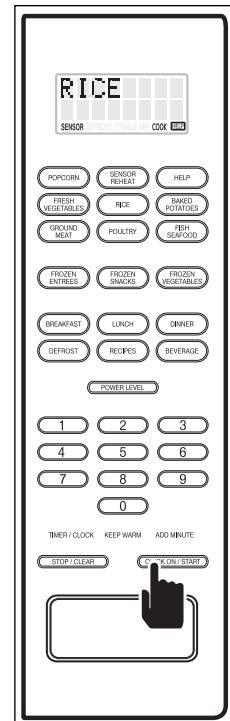

Figure 3-61.
2. Press the QUICK ON/START key. In this example, "RICE - SENSOR COOK" flashes on the display and the microwave is energized. (See Figure 3-61) When the sensor in the oven senses enough steam from the food, it will switch the microwave oven off, "END" will flash on the display and the alarm will beep.